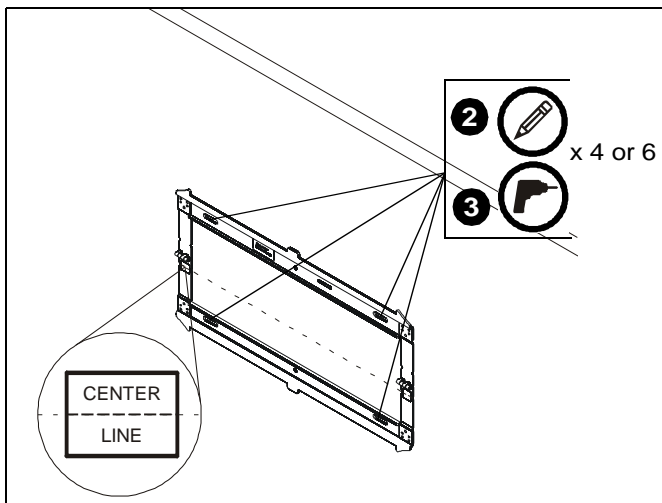

Figure 5
2. Level wall plate (A) and mark locations of pilot holes at desired mounting location. (See Figure 5)
NOTE: The vertical center of the display will be even with the center line indicated on the labels located directly below each hinge. Keep this in mind when determining mounting location. (See Figure 5)
3. Drill 5/16" (7.9mm) diameter pilot holes into wall at marked locations. Holes must be drilled at least 2 1/2 inches deep. (See Figure 5)